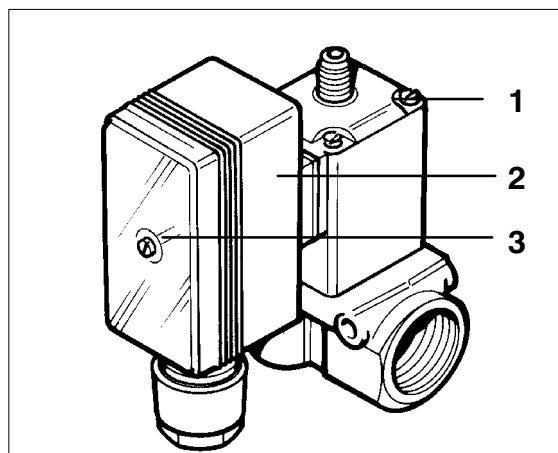

Fig. 37 Solenoid valve plug
- Prior to **first** operation or operation subsequent to repair work operate unit for at least 10 minutes with open condensate valves (pressureless) to ensure proper lubrication of all parts before pressure is built up. To keep drain valves open, loosen screw (3, Fig. 37) on coil (1) and pull plug (2) from solenoid valve.